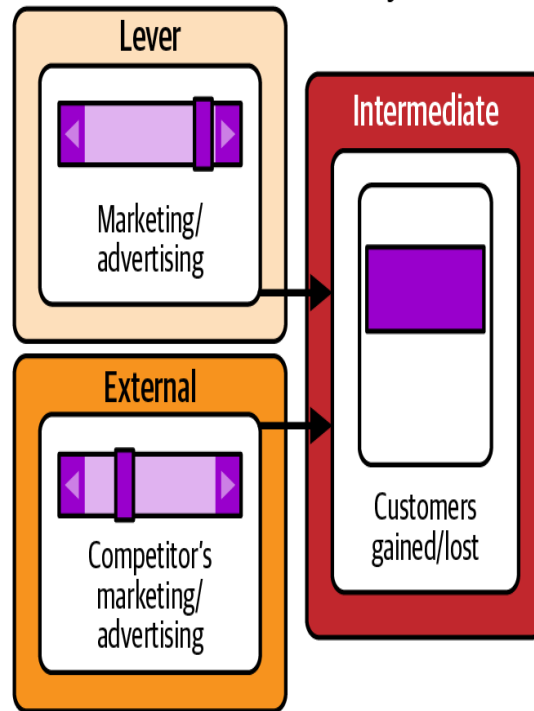

Figure 5-14. Simulation screenshots.
You decide that your simple formula will be to start with 100,000 customers (that's your "center line"), and that it will take you spending 10% more than your competitor on marketing to increase your number of customers by 1%. Again, these numbers are completely arbitrary and meaningless ("stub code"), but you need to start somewhere. **Figure 5-14** shows the kinds of results you're going for here.
8. Create a bar graph to display the number in this column. Style the bar graph in Excel to look like the bar graph in Figure 5-14.
Your results might be similar to those in Figure 5-14.
The very simple simulation in Figure 5-14 suggests something useful: that, regardless of whether your competitor launches an unlimited plan, your company will never be worse off if *you* launch one. Of course, this insight depends on your fake numbers and formulas, but if you move the levers and watch the outcome bars, you'll observe that you gain some intuition you don't get from just the numbers.⁵ There is something counterintuitive going on here that bears repeating: even with "stub" code, you've creating a connection between math and a visualization of that math in a way that is very intuitive and natural for people. You're asking them to think in terms of an action they take (the lever) in some context (the external) and its result. This is like throwing a ball and catching it—
You create a brief Simulation Report with this conclusion from your simulation and some screenshots like those in Figure 5-14.